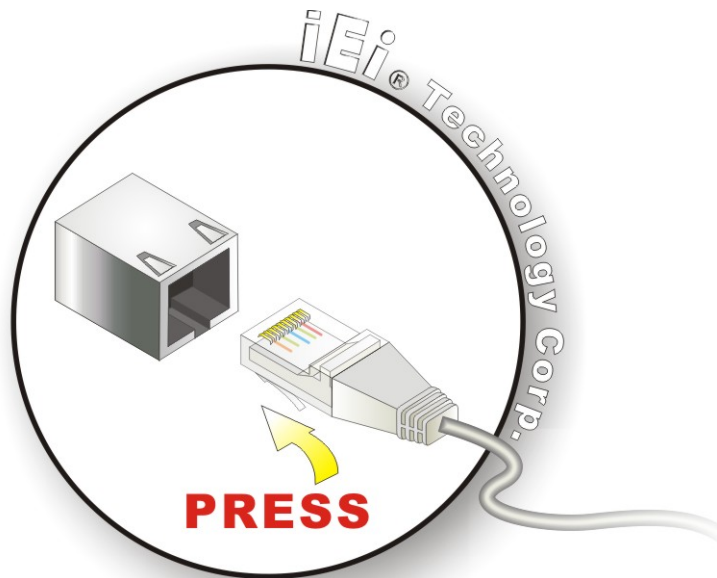

Figure 3-24: LAN Connection
- Step 2:** **Align the connectors.** Align the RJ-45 connector on the LAN cable with one of the RJ-45 connectors on the UPC-V312-D525. See **Figure 3-24**.